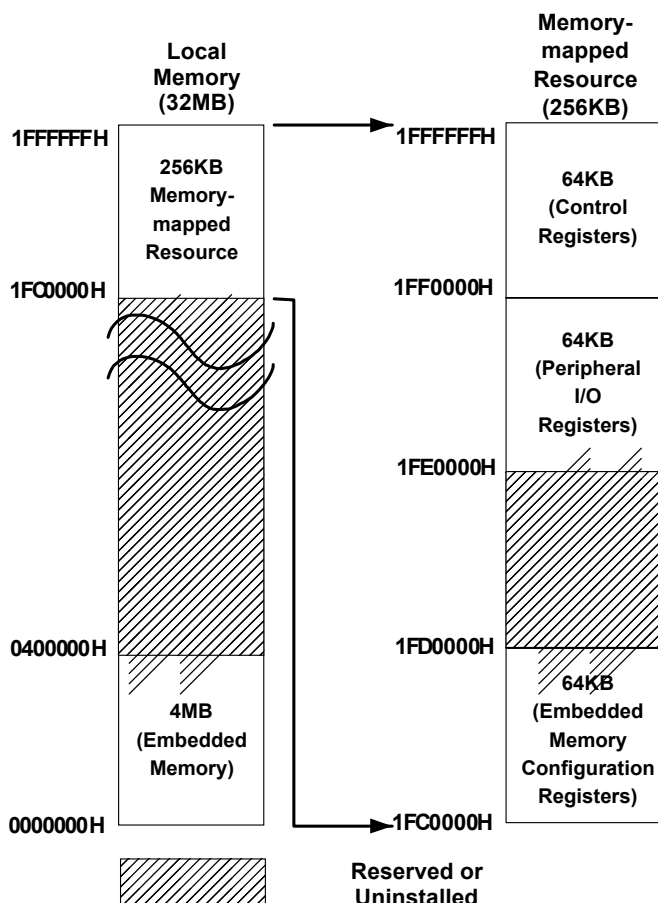

Figure 4-1. Address Space Allocation
All registers associated with the SM3110 are accessible in one or more address spaces. As shown in Figure 4-1, the 32MB Local Memory contains a 256KB region for memory-mapped resources. This is further divided into four(4) 64KB regions, the upper-most of which is the Control Address Space. The registers discussed in this section are all mapped within the Control Address Space. (For more information on address mapping, see Section 6, Programmer's Reference.)